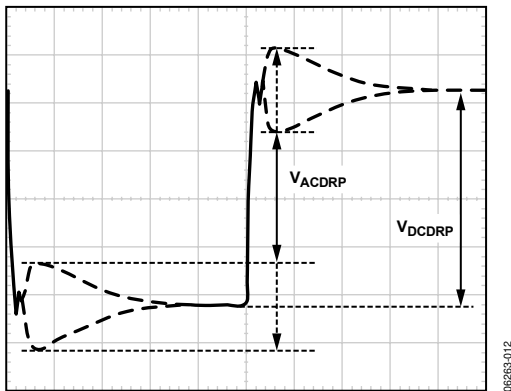

Figure 15. AC Load Line Waveform
14. Measure the output waveform (use dc offset on scope to see the waveform). Try to use a vertical scale of 100 mV/div or finer. This waveform should look similar to Figure 15.
15. Use the horizontal cursors to measure V_{ACDRP} and V_{DCDRP} as shown in Figure 15. Do not measure the undershoot or overshoot that happens immediately after this step.
- $$C_{CS(NEW)} = C_{CS(OLD)} \times \frac{V_{ACDRP}}{V_{DCDRP}} \quad (44)$$